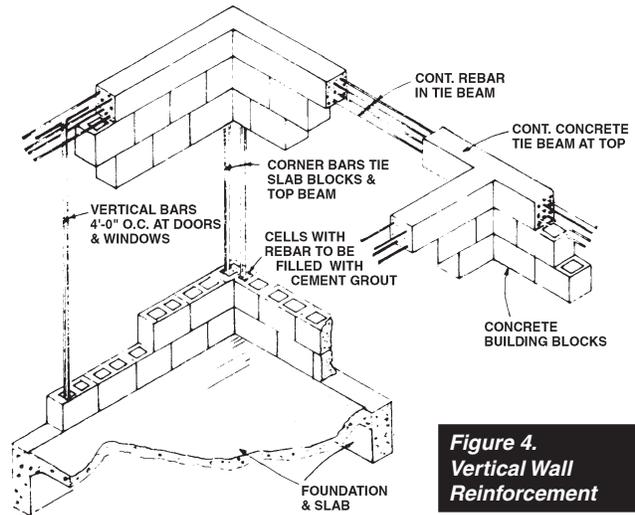

Figure 4.
- Vertical Wall Reinforcement.** Has vertical reinforcing steel and concrete (Figure 4) been included at corners, at openings, and at regular intervals along walls without openings?